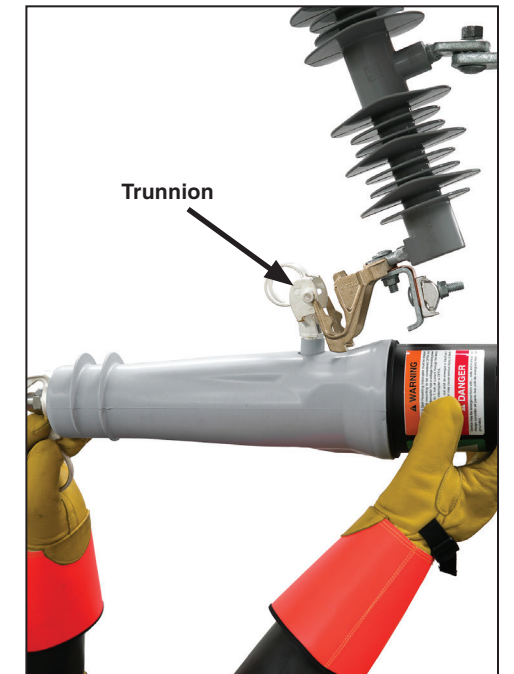

Figure 5. Guiding or removing the trunnion from the hinge using gloved hands.
**STEP 2. Installation using insulated gloves:** With the manual operating lever in the **Up** position, insert the VacuFuse II interrupter into the proper cutout mounting with gloved hands, as shown in Figure 5 on page 2.
- STEP 3. Removal using gloved hands:** Remove the VacuFuse II interrupter from its mounting with gloved hands, as shown in Figure 5.